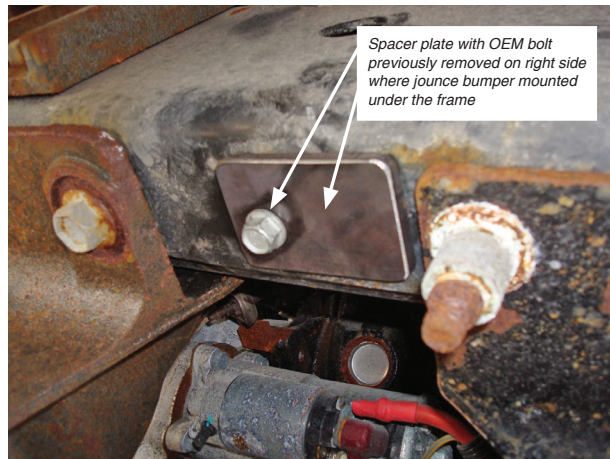

fig. 6
2. Install the small spacer (C) onto the bottom of the frame (where the jounce bumper mounted) on the right side of the vehicle with the existing jounce bumper bolt previously removed (Fig. 6). Tighten securely.